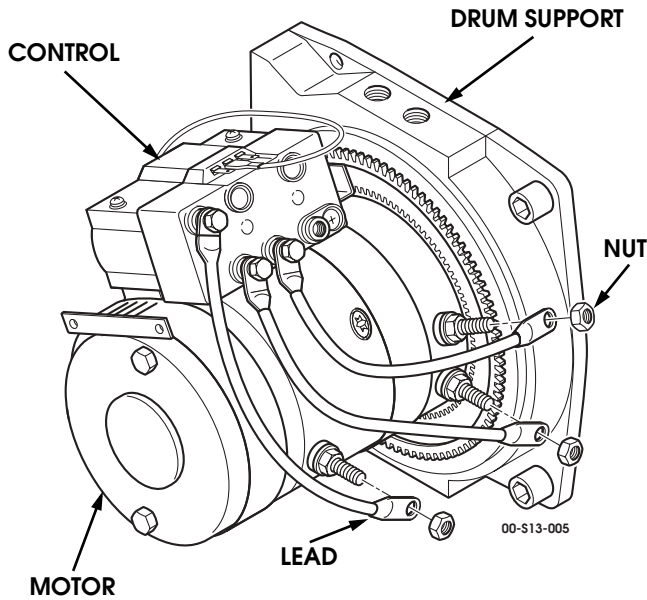

Figure 9-188: Control Leads
2. Remove three nuts and control leads from motor (Figure 9-188).